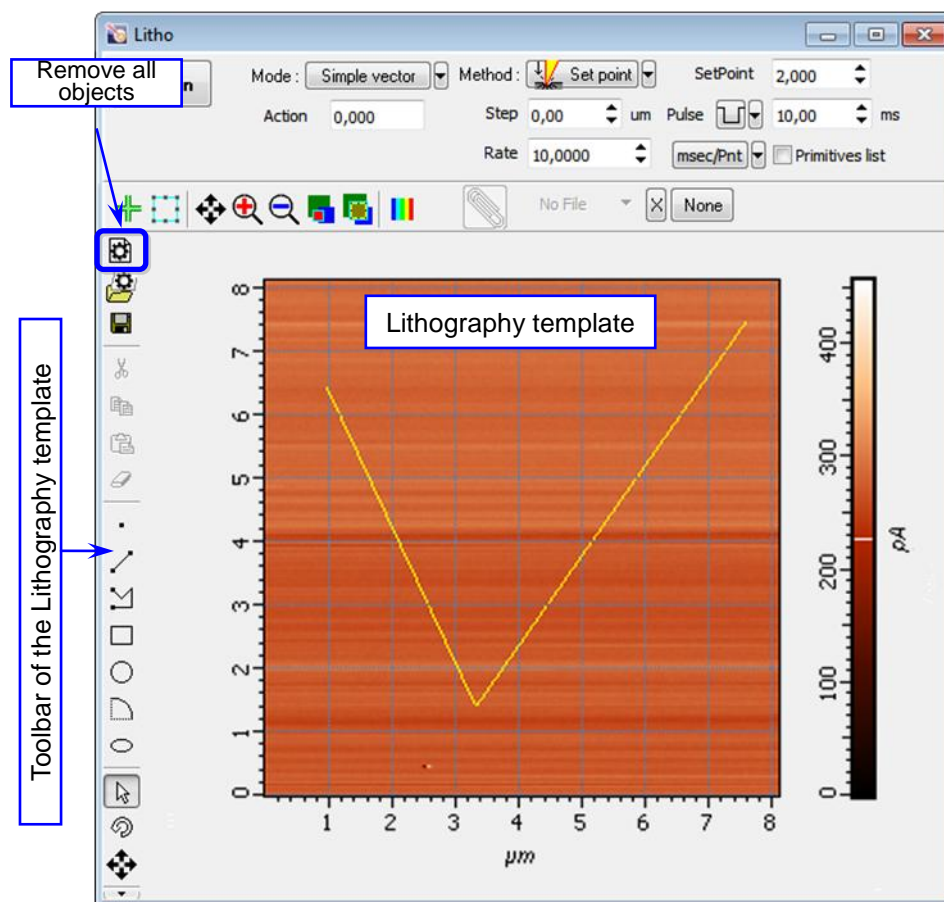

Fig. 12-40. Example of the lithography template
1. Create a new lithography template. To this purpose, click the  button in the Toolbar of the Lithography template (Fig. 12-40). This will remove all objects created before. This step is required to prevent any object outside the selected region to appear in the final template.